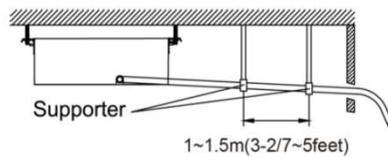

Fig. 4.22
3. When the hose is long, install supports.(Fig. 4.22)